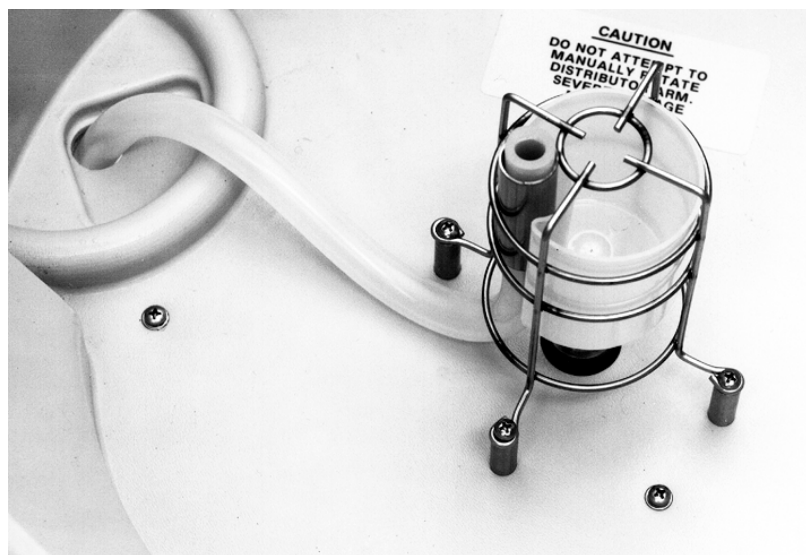

Figure 4-1 Composite Sampling: Float and Float Cage Installed on Center Section
3. Turn the center section over, as shown in Figure 4-1, and install the optional float and float cage. You should install the shaft on the “diving-bell” float in the hole in the distributor shaft, as shown. Attach the float cage to the underside of the center section using the four screws and the 1-inch spacers provided with the float-cage kit.
When attaching the cage, reuse the existing lockwashers. Be sure the float cage is oriented with the tube guide positioned as shown in Figure 4-1. The float and float cage direct the discharge of the sample into the composite con-
4. Feed the 34.5-inch (88.5-cm) composite-pump tube (supplied with the optional float and float cage) through the port in the center section. Then, place it in the float-cage tube guide, as shown in Figure 4-1, and install it in the pump as described in *Installing a New Pump Tube* (Section 5.3.3).